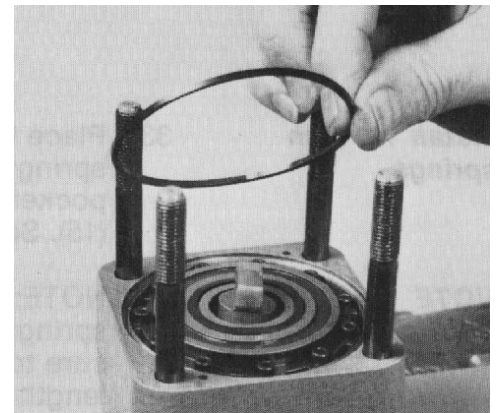

Figure 93
30. Apply clean multi-purpose grease to the metering ring seal ring. Put the seal ring into the metering ring seal ring groove (Fig. 93).
37. To install the valve plate correctly, first carefully study Figures 93 and 94 for positioning of the valve plate spring slots and other cavities in relation to the spring and spring recesses on the isolation manifold. Be sure to use the alignment grooves on the side of the isolation manifold for orientation.